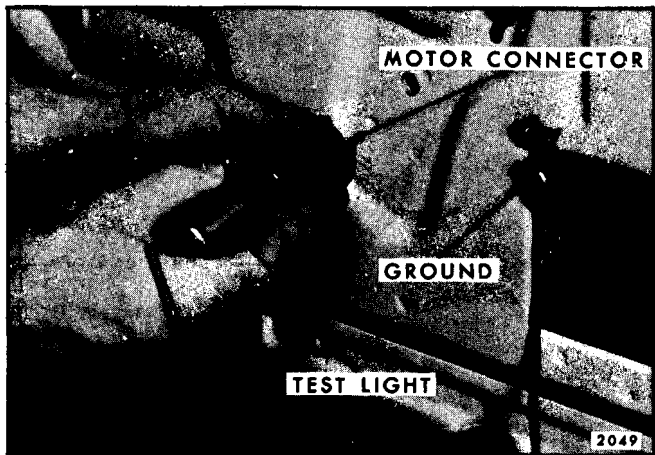

Fig. 15-9-Checking Circuit Between Switch and Motor
3. With test light, check for current at motor harness connector terminal being tested. If tester does not light, there is an open or short circuit in the harness between the control switch and motor connector (Fig. 15-9).
2. With a test light, check for current at the corresponding terminal at the motor harness connector. If tester does not light, there is an open or short circuit between control switch and motor connector (Fig. 15-9).